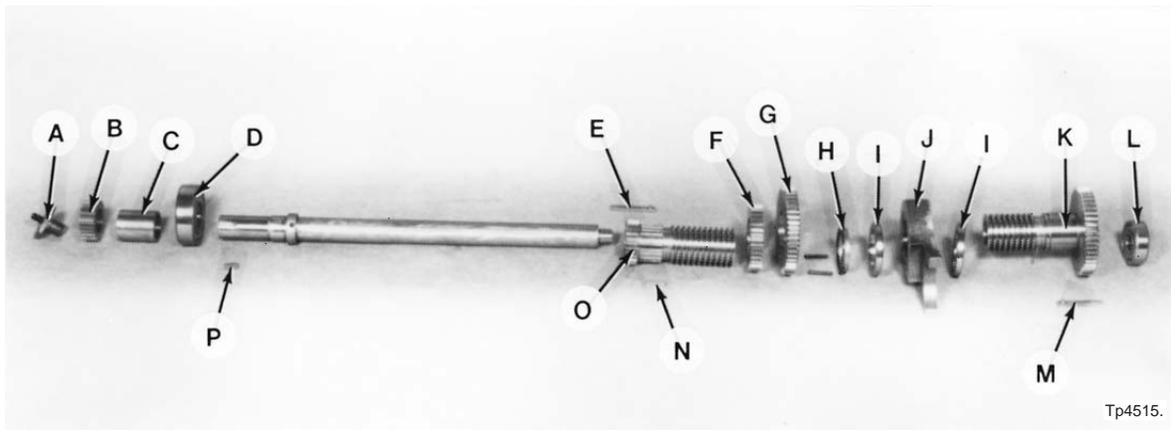

Figure 4.59 - Three Change Shaft Assembly
Gears “F” and “G”, Figure 4.59, are pinned together. DO NOT separate these gears.
- a) Remove spacer “C”, Figure 4.59 .
Stud “A”, Figure 4.59, gear “B”, and key “P” will be replaced in step 25.
- a) If removed, replace key “E”, Figure 4.59, in the inside diameter of worm “O” and replace key “M” in the inside diameter of worm “K”.